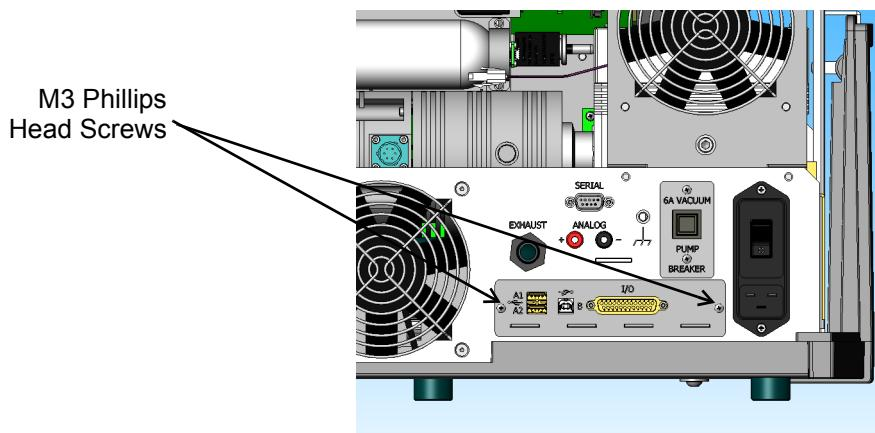

Figure 3: I/O Assembly with Screws
7. Remove the two I/O board Phillips head screws w/lock washers and remove the I/O board that is installed in the unit (“Figure 3: I/O Assembly with Screws”).
11. Reinstall the two I/O board Philips head screws w/lock washers ("Figure 3: I/O Assembly with Screws").